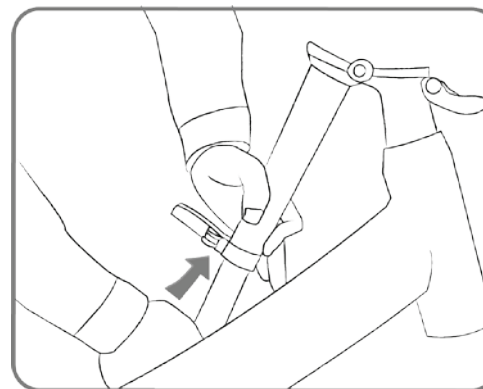

fig. 6
8. Optional: Slide the steer inwards (fig. 6)